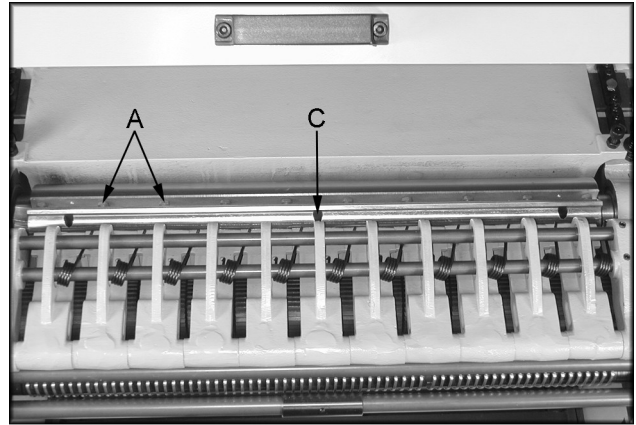
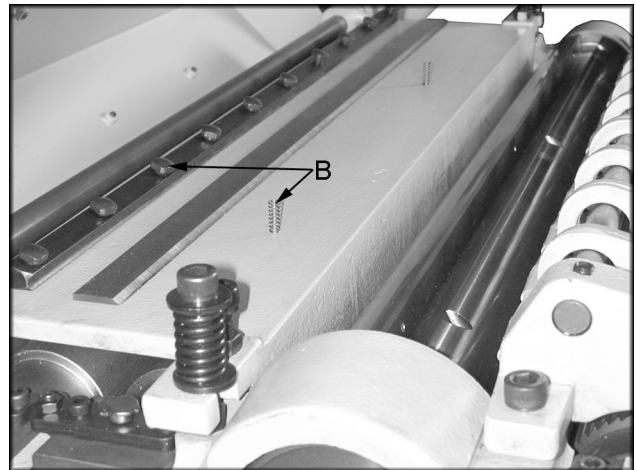

Figure 9
Figure 10
2. Open the hood, loosen ten locking bolts (A, Figure 9) on the clamping block and remove the knife. Remove and clean the clamping block, and springs (B, Figure 10). Also clean cutterhead knife slot before re-installing the sharpened, or new knife.
3. Re-install the springs, knife and clamping block, and just snug the ten locking bolts (A, Figure 9). **Note:** You should still be able to raise and lower the knife.
4. Notice that the knife does not rest at the bottom of the knife slot. Instead, the knife rests on three jack screws (C, Figure 9), and two springs. These jack screws are used to support and raise the knife.